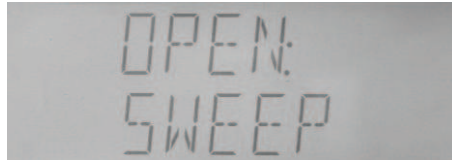

Figure 4-3 Open sweep correction
3. Select to perform spot or sweep correction through **【▲】** or **【▼】** key, as shown in Figure4-3.